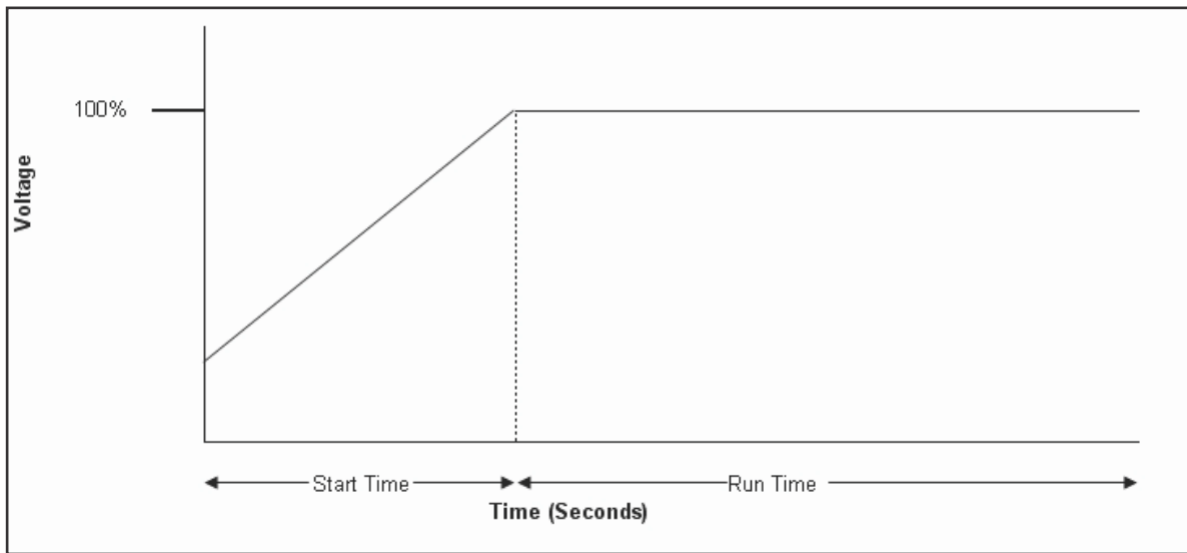

Figure 1.
- The output voltage to the motor is gradually increased during the start time (See Figure 1.). The start time is set via DIP Switches and can be set to 2, 5, 10 and 15 seconds.